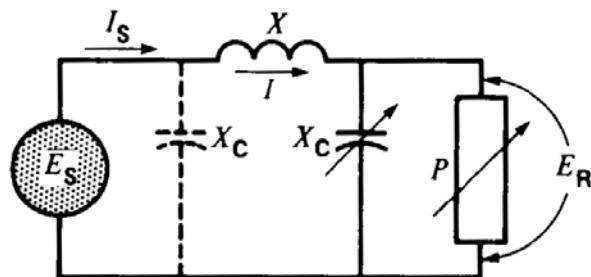

Figure 6.1
6. (a) The equivalent circuit for a distribution system is shown in Figure 6.1. The following parameter is given as, $E_R=6000V$, equivalent load resistance is 45Ω , $X_L=15\Omega$, $X_C=150\Omega$ parallel with load. Neglecting the dotted reactance X_C in parallel with the source, calculate the following: